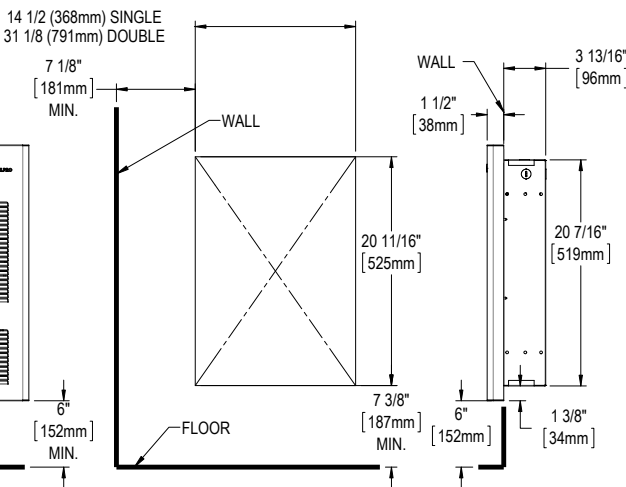

FIG. 2
4. For surface installation, put a wooden plate at the back of the gypsum in order to fix the unit to the wall securely. For the wooden plate dimensions, refer to the opening for the recessed application (see figures 2 and 3). Use the same dimensions for ceiling application (ACF).
1. The opening in the wall must be made in accordance with acceptable standards (see figures 2 and 3, and Warning).